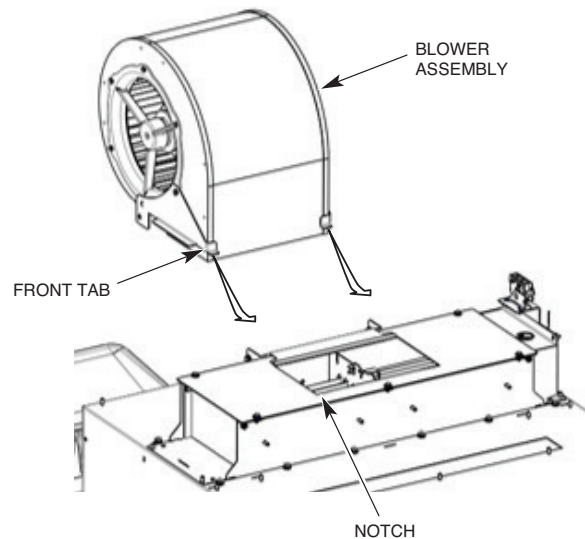

Fig. 24
2. Install the blower assembly on top of the heater housing by lowering the blower assembly on an angle so that the front tabs hook underneath the notches on the top plate of the heater housing (Fig. 24 and 25).